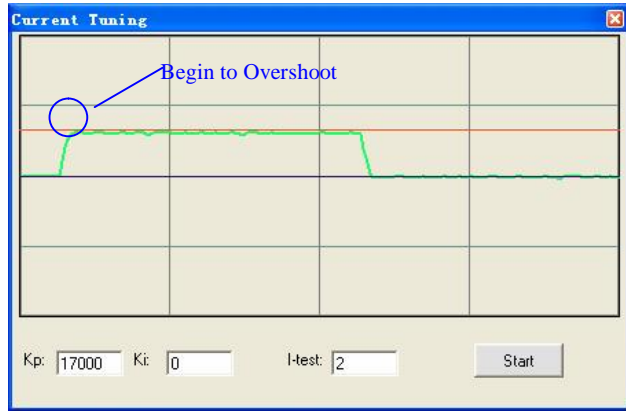

Figure 27: Step response with better K_p of current-loop ($K_p = 17000$)
2. If the response is an over-damped response as shown in figure 26, increase Kp until get an under-damped response as figure 27.
smaller overshoot response as figure 27.